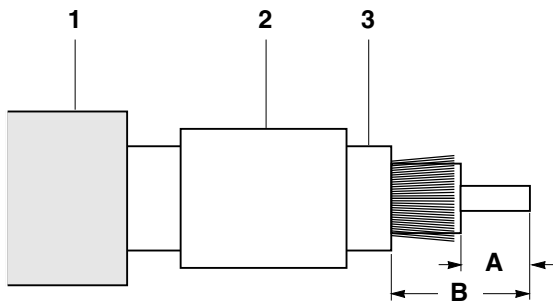

Figure 2. Preparing Cable Ends
4.11. Refer to Figure 2. Flush cut the end of the cable using a fine saw blade. Slide the shrink tubing (if used) (1) and ferrule (crimp ring) (2) over the cut end.
4.12. Refer to the procedure below to prepare the cable end for an N or TNC connector. The dimensions for strip gaps are listed in Table 2. The numbers and letters in parentheses refer to Figure 2.
- a. Measure distance (A) back from the flush cut end of the cable.
- c. Measure distance (B) back from the flush cut cable end.
- d. Cut through the outer insulation (3) but not the braided shield.